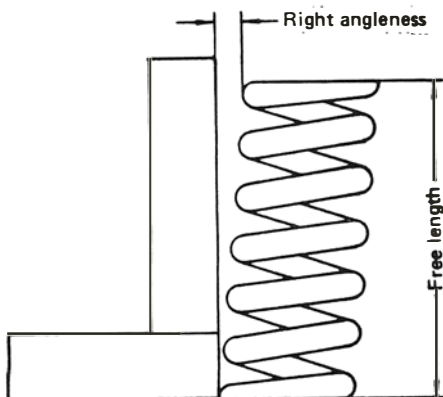

Figure 14
2. Check each valve spring for squareness, and free length. Measure the spring vertically with a square on a surface plate, Figure 14. Discard any valve springs that do not meet the specified limits page 27.